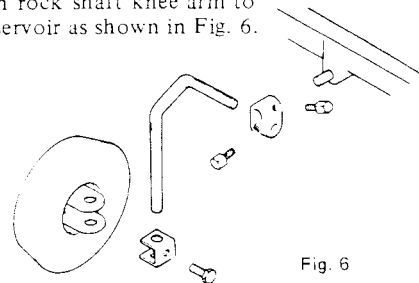

Fig. 6
- Fasten rock shaft knee arm to oil reservoir as shown in Fig. 6.